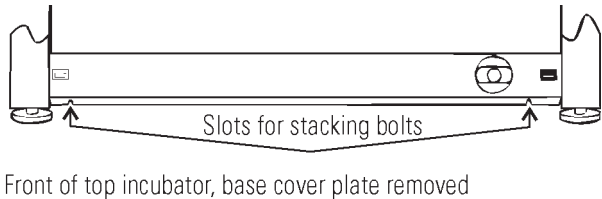

Figure 1-5. Stacking Bolt Slots
2. Note the two slots in the base of the incubator which accommodate the stacking bolts. Refer to Figure 1-5.
7. Insert the stacking brackets into the slots on the rear of the control panel of the bottom unit as shown in Figure 1-5. Align the slots in the brackets with the mounting holes on the rear of the incubators. Secure the brackets with the screws saved above and the 1/4-20 bolts provided in the stacking kit. A 7/16" wrench or socket is required for the bolts.